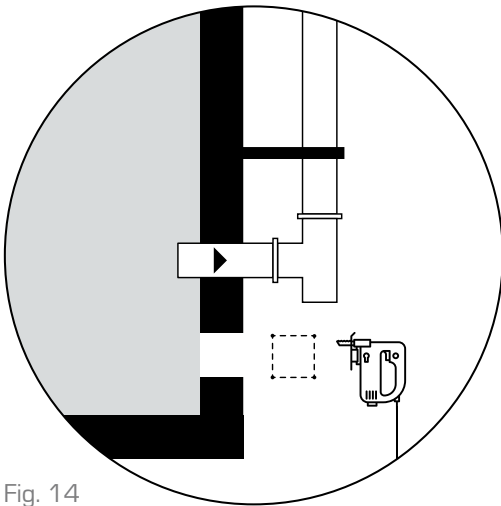

Fig. 14
2. Use a jigsaw to cut between the four holes (fig. 14).